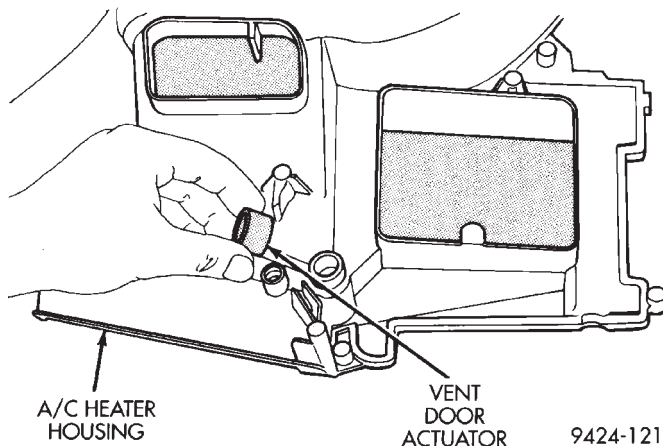

Fig. 83 Vent Door Actuating Arm
(27) Remove vent door actuating arm from lower housing (Fig. 83).